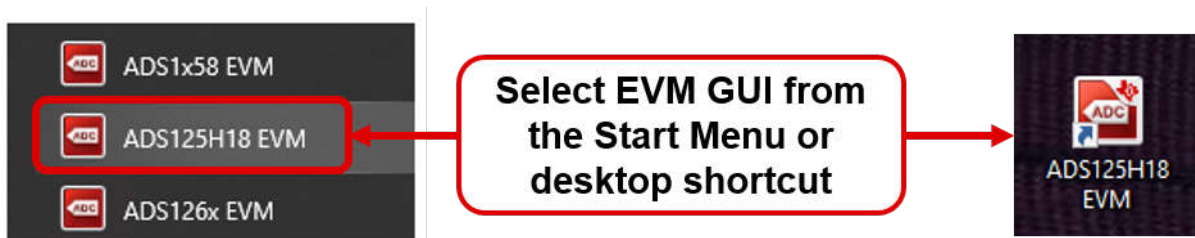

Figure 4-2. Launch the EVM GUI Software
5. Start the software GUI as shown in Figure 4-2. Notice that the LEDs blink slowly when the FPGA firmware is loaded on the PHI. This loading takes a few seconds.